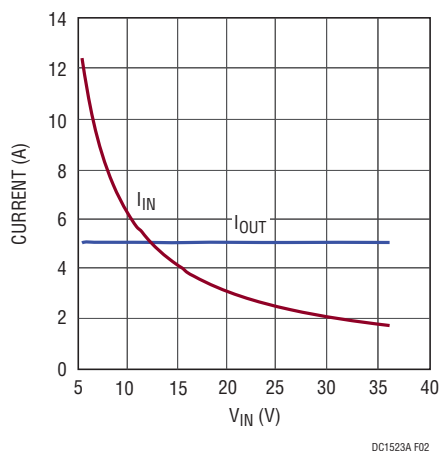

Figure 2. Input Current at Full Load (12V at 5A Out)
2. Set the current limit of the input supply high enough so that the bench supply does not go into current limit mode. Figure 2 shows input current as a function of input voltage, at full load. Input current can reach 13A at 5V input voltage.